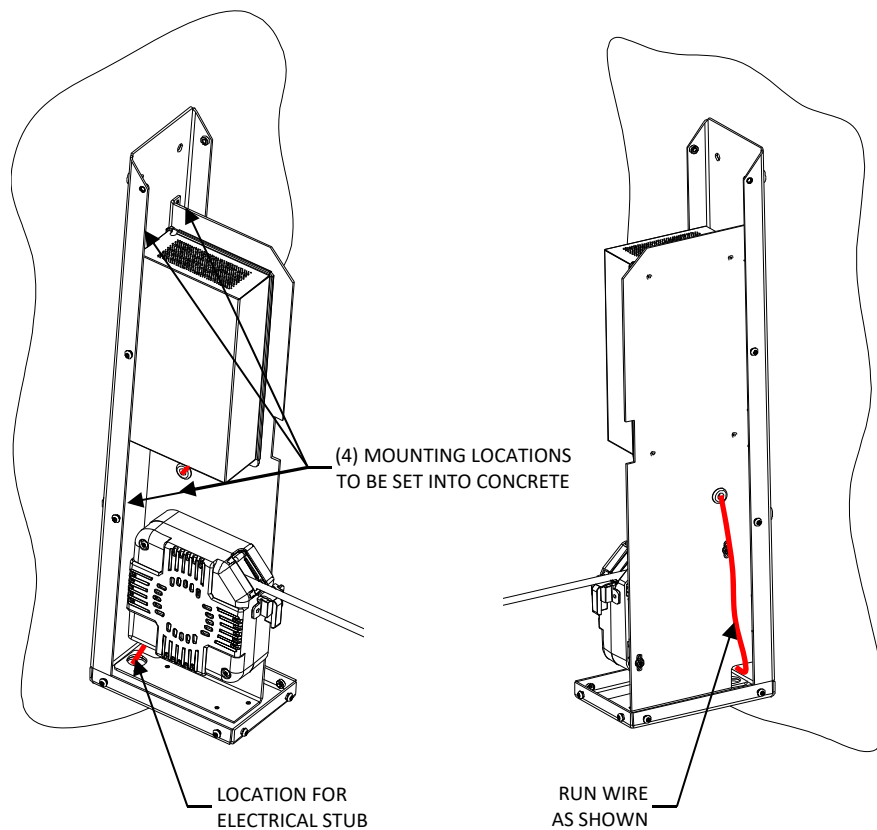
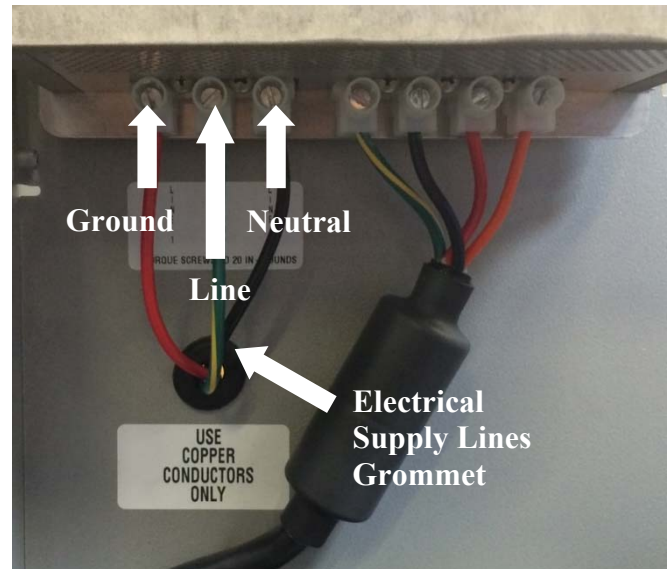

Figure 6 – Input Wiring Routing
Figure 7 – Input Wiring Termination
IMPORTANT: Torque fasteners to 20 ft-lb. (See Figure 6)
8. Feed electrical supply through bottom entry location in middle of unit. Feed wires to right of unit through bottom rear wire access hole. Route cable upwards and feed from right to left of unit through cable pass-through grommet between cord reel and circuit board. (See Figure 6 on previous page and Figure 7 below)
9. Terminate Line, Neutral, and Ground wires per Figure 7.
10. Install the 6 screws in the lower front and sides of the unit that attach the front housing to the charging base. (See Figure 6 on previous page)
<p>None of the status lights are illuminated. L1 PowerPost® EVSE does NOT charge vehicle when charge coupler is plugged in.</p>	<ul style="list-style-type: none"> • Interrupt power to the L1 PowerPost® EVSE and lock out as appropriate. Disassemble unit per steps 3-5 above. Restore supply power to L1 PowerPost® EVSE. Verify that proper supply voltage is present at the L1 PowerPost® EVSE terminal block. (See Figure 7) • Interrupt power to the L1 PowerPost® EVSE and lock out as appropriate. Verify that supply power wiring is securely terminated to incoming power terminal block. • Interrupt power to the L1 PowerPost® EVSE and lock out as appropriate. Remove incoming power fuse and verify continuity. Replace fuse if blown. • If these steps do not resolve the problem, contact Konnectronix technical support.
4. Disconnect the supply wiring and cord reel wiring from their respective terminal blocks. (See Figure 7 in the Installation section)
8. Reconnect the supply wiring to the terminal block per Figure 7 in the Installation section.